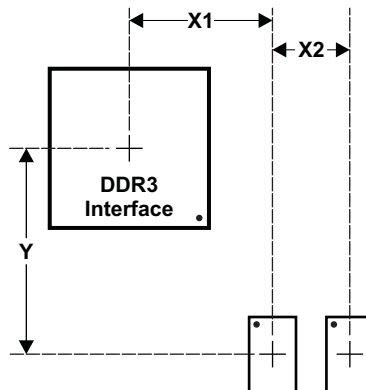

Figure 5-45. Placement Specifications
Figure 5-45 shows the required placement for the AM335x device as well as the DDR3 devices. The dimensions for this figure are defined in Table 5-56. The placement does not restrict the side of the PCB on which the devices are mounted. The ultimate purpose of the placement is to limit the maximum trace lengths and allow for proper routing space.
(1) DDR3 keepout region to encompass entire DDR3 routing area.
(2) For dimension definitions, see Figure 5-45.
(3) Measurements from center of AM335x device to center of DDR3 device.
(4) Minimizing X1 and Y improves timing margins.
(5) w is defined as the signal trace width.
(6) Non-DDR3 signals allowed within DDR3 keepout region provided they are separated from DDR3 routing layers by a ground plane.